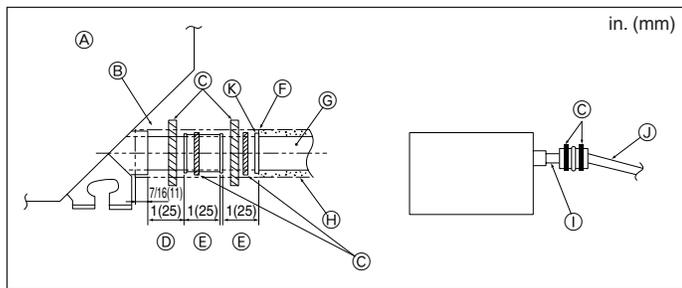

Fig. 5-2
1. Connect the drain socket (supplied with the unit) to the drain port. (Fig. 5-2) (Affix the tube using PVC adhesive then secure it with a band.)